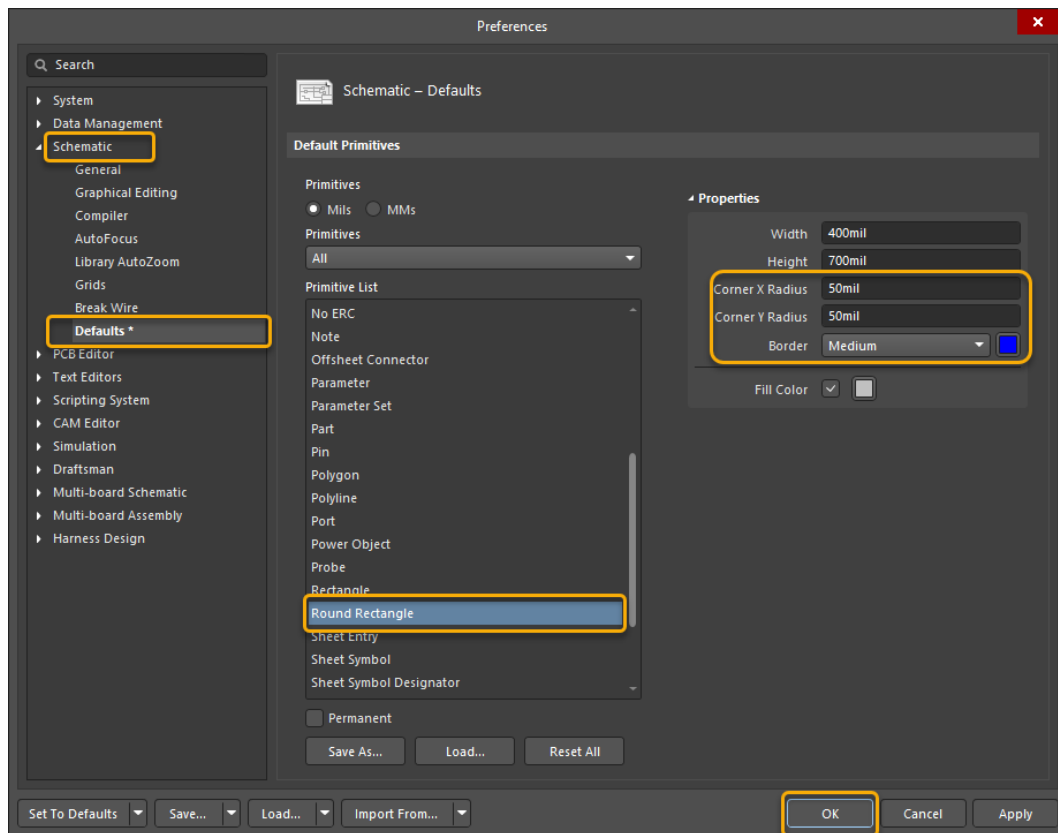

Figure 17. Rounded Rectangle Properties
24. Go to  **Preferences**, under the *Schematic* branch, and go to the *Defaults* page. Select the object *Round Rectangle* from the *Primitive* list and change both the *Corner X Radius* and *Corner Y Radius* to 50mil. See Figure 17.